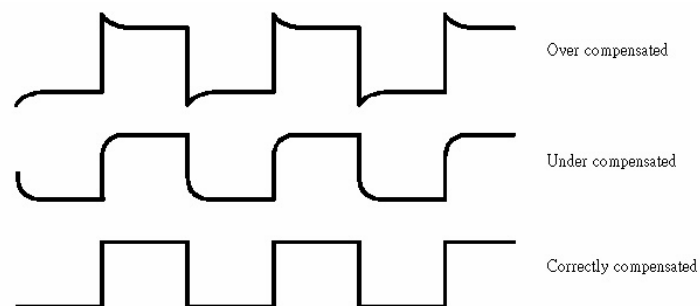

Figure 5-2 Typical Compensation Waveform
7. Observe the displayed waveform and compare them with the waveforms shown in figure 5-2. If either probe needs to be adjusted, proceed the step 8. If either probe does not need to be adjusted, proceed the “Function Check”.